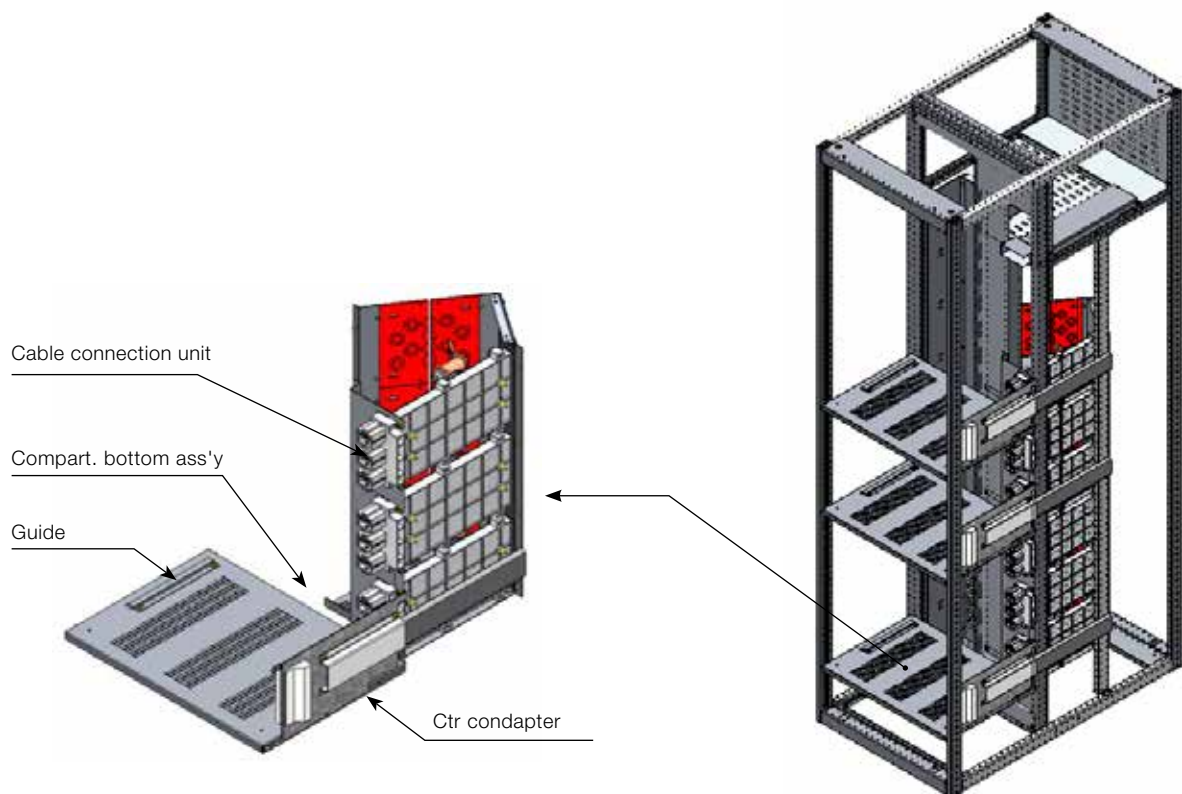

Fig. 12 Plug-In compartment for units size 6E ... 24E
- rear plug-in compartment (see fig. 12)
Sizes 6E ... 24E rear plug-in compartments comprise (see fig. 12):